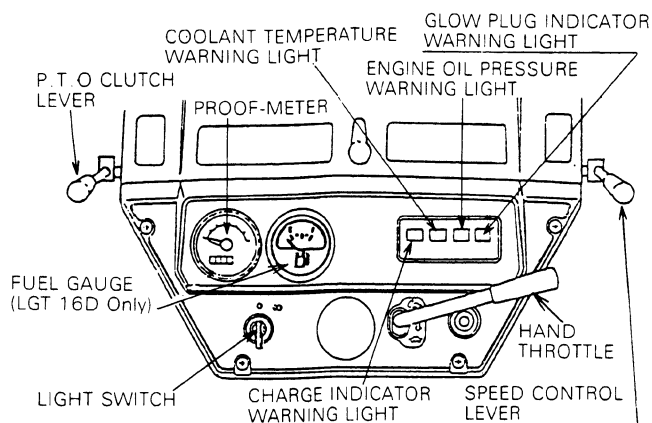
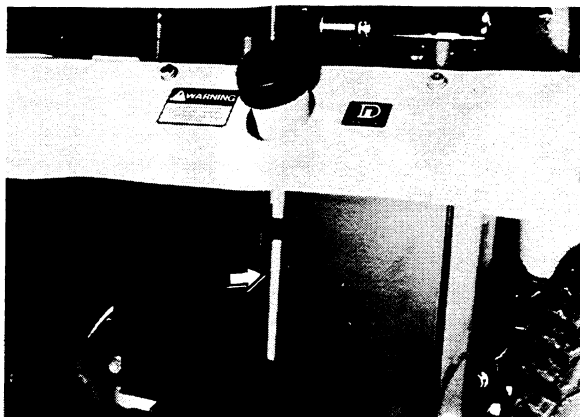

Figure 2 - Instrument Panel
Figure 3 – Fuel Gauge
The light switch, shown in Figure 2, is located on the left side of the instrument panel.
The engine temperature, oil pressure, glow plug and charge indicator warning lights are located as shown in Figure 2. When the key start switch is turned "ON" the oil pressure and charge lights come on. After the engine has been started, the lights should go out within a few seconds. If they do not go out:
The Proof-Meter is located on the left side of the instrument panel, Figure 2. The Proof-Meter indicates:
- Engine revolutions per minute are indicated on proof meter as shown in Figure 2.
The fuel gauge is shown in Figure 2 (LGT 16D), Figure 3 (LGT 14D). The gauge indicates the level of fuel in the tank.
The hand throttle is shown in Figure 2. Push the throttle forward to increase engine rpm. Pull the throttle rearward to decrease engine rpm.